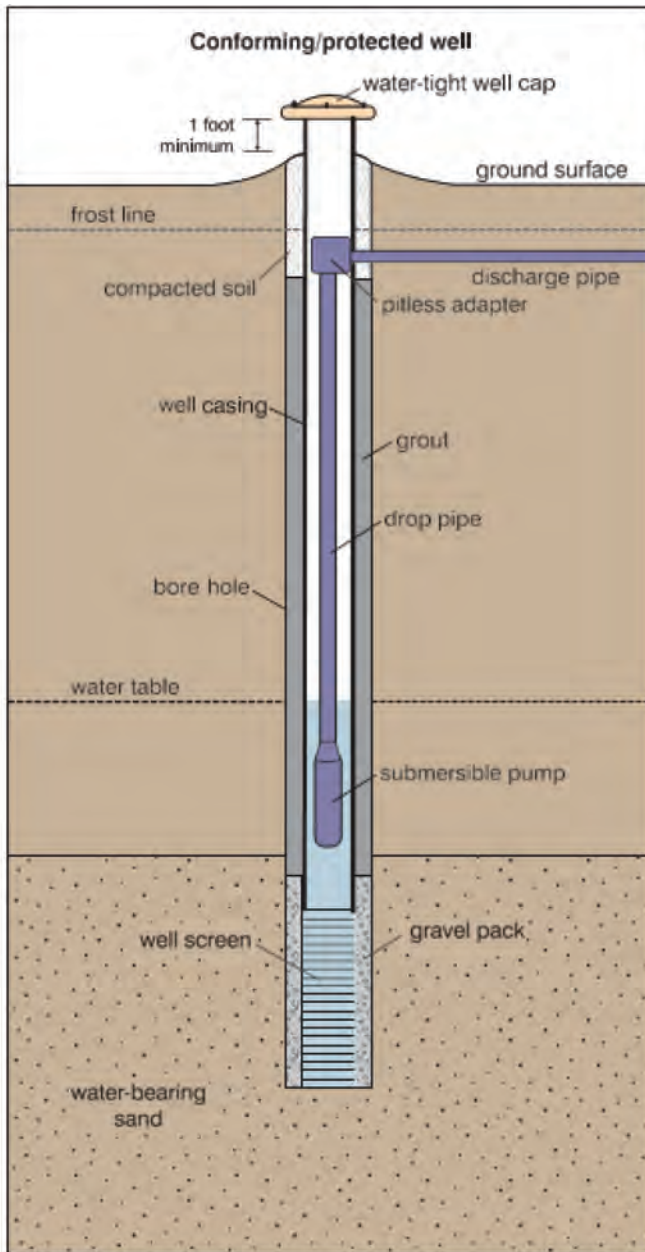
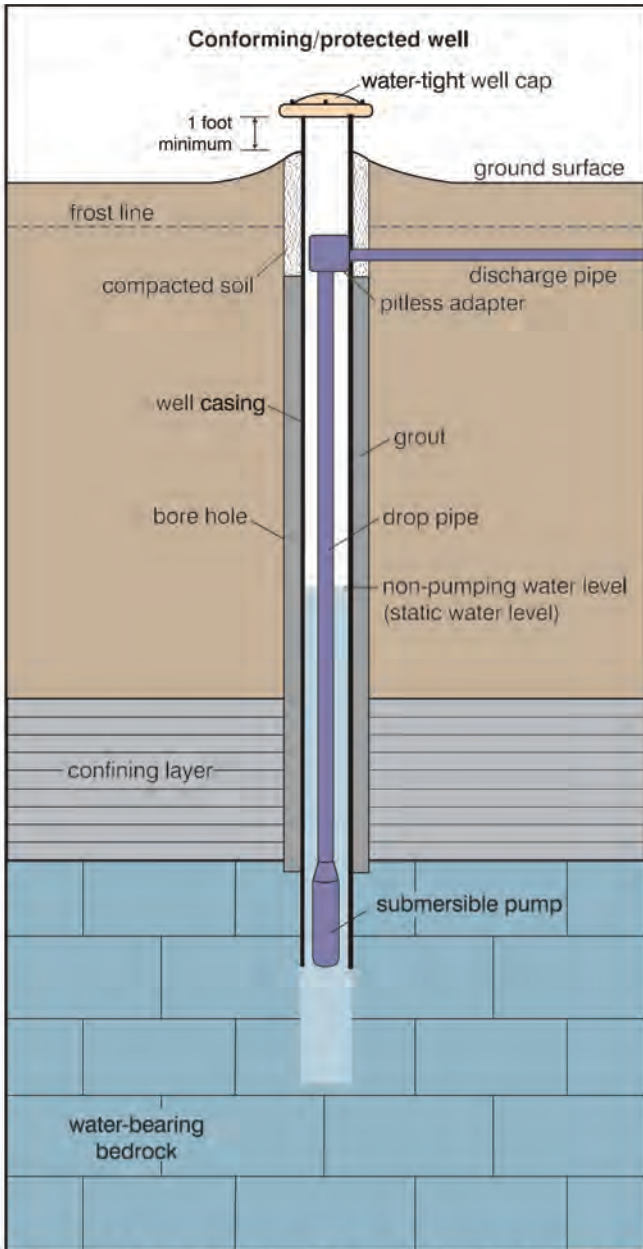

Figure 1. Drilled well tapping water-bearing sand.
Figure 2. Drilled well tapping water-bearing bedrock.
- *Small-diameter drilled wells* (Class 2 wells) are usually *cased* with steel or plastic pipe. These wells draw water from sand and gravel deposits (Figure 1) or from *bedrock aquifers* (Figure 2). These wells are the most common wells in Iowa and are generally found throughout the state.